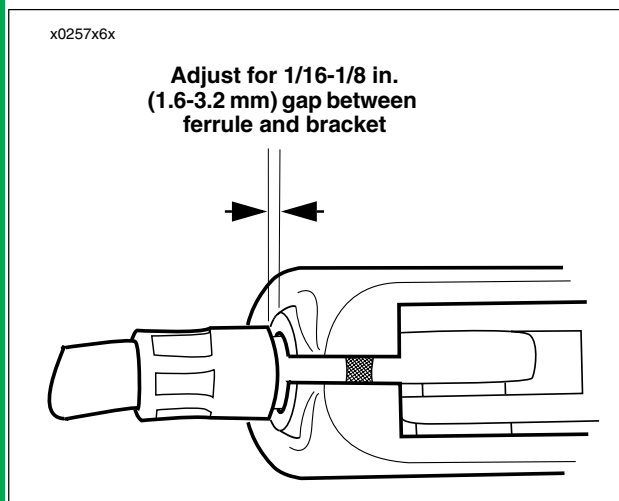

Figure 1-22. Adjusting Clutch Free Play
8. See Figure 1-20. Turn cable adjuster clockwise away from jam nut until slack is eliminated. Pull clutch cable ferrule away from clutch lever bracket to check free play. Turn cable adjuster as necessary to obtain 1/16 to 1/8 inch free play between end of cable ferrule and clutch lever bracket, as shown in Figure 1-22.